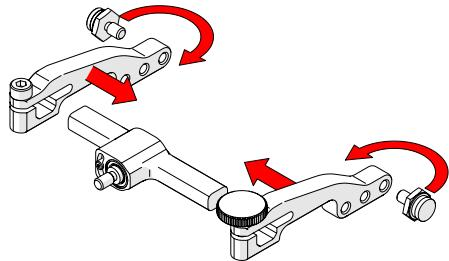

*Fig. 213 - Remove arms*
2. Loosen the probe holder arm adjustment knob and arm clamp screw. Slide the arms from the yoke (*Fig. 213*).